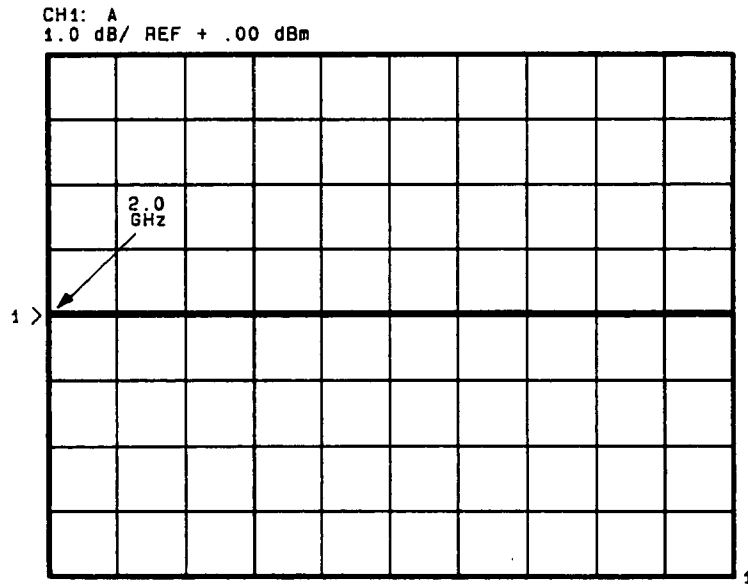

Figure 5-14. 2 GHz Frequency Point
15. The trace displayed represents 2 GHz at 0.00 dBm. This provides the initial frequency point as a reference at the first graticule on the HP 8757A display. See Figure 5-14.